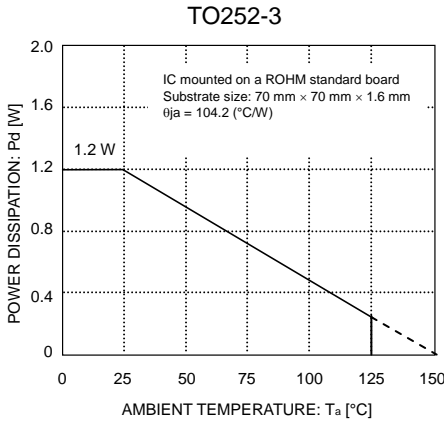

Fig. 23
Refer to the heat mitigation characteristics illustrated in Figs. 23, 24 and 25 when using the IC in an environment where $T_a \geq 25^\circ\text{C}$. The characteristics of the IC are greatly influenced by the operating temperature. If the temperature is in excess of the maximum junction temperature T_{jmax} , the elements of the IC may be deteriorated or damaged. It is necessary to give sufficient consideration to the heat of the IC in view of two points, i.e., the protection of the IC from instantaneous damage and the maintenance of the reliability of the IC in long-time operation.
In order to protect the IC from thermal destruction, it is necessary to operate the IC not in excess of the maximum junction temperature T_{jmax} . Fig. 23 illustrates the power dissipation/heat mitigation characteristics for the TO252 package. Operate the IC within the power dissipation Pd. The following method is used to calculate the power consumption Pc (W).